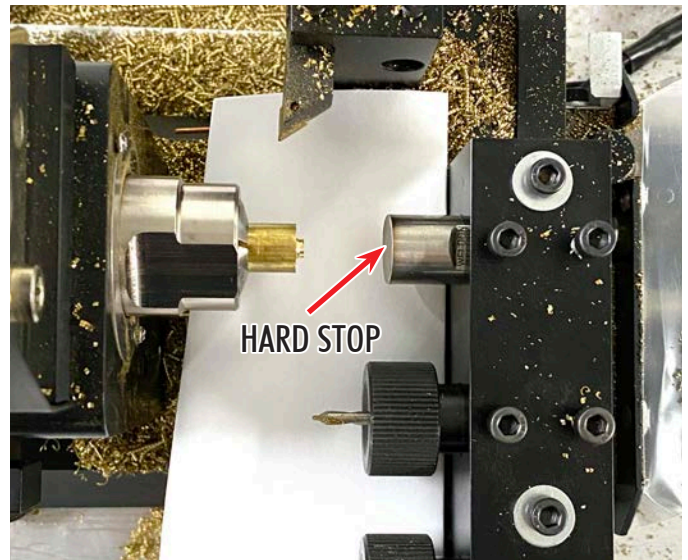

FIGURE 72
H. Be sure to position your hard stop in front of the stock in the collet (see Figure 72).